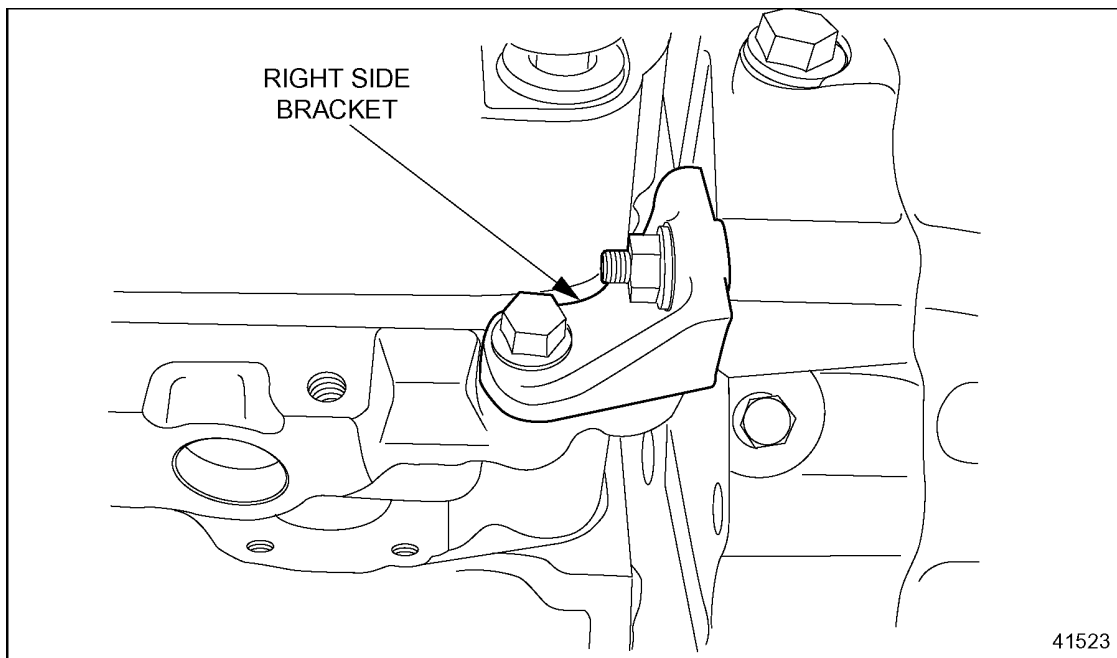

Figure 1-178 Gear Case Stiffening Bracket (Right Side)
6. Remove the two bolts securing the right side gear case stiffening bracket. See Figure 1-178.